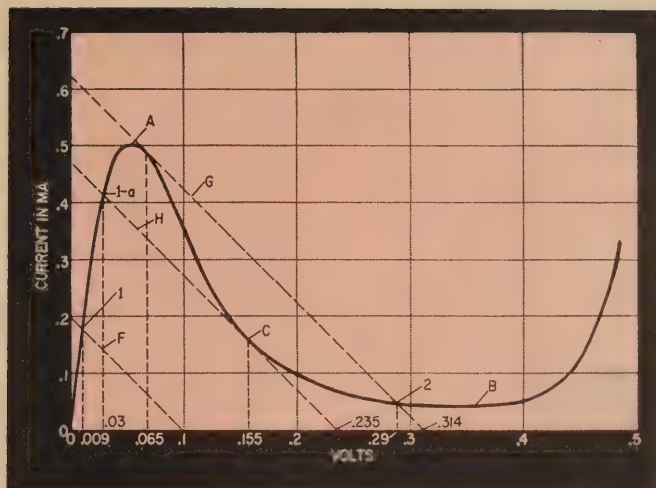
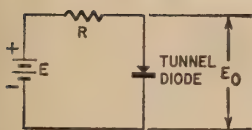
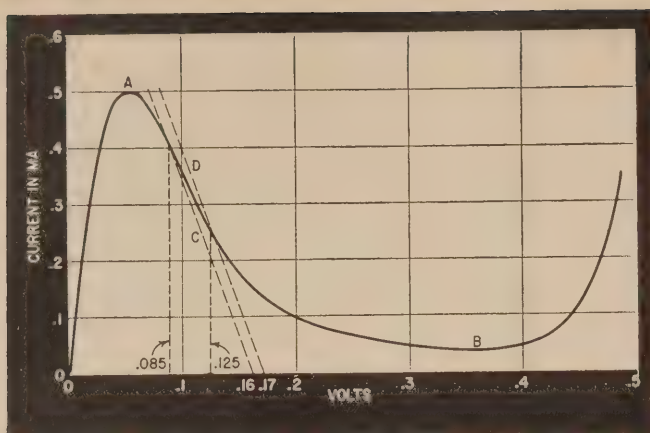

Fig. 2—Tunnel-diode characteristic with load lines for 500-ohm resistor in circuit of Fig. 3.
Fig. 3—Basic tunnel-diode circuit.
Fig. 5—Characteristic and load lines illustrating amplifying property.
it will be useful to first explore some of its electrical properties. It will be convenient, therefore, to refer to the simple series circuit arrangement of Fig. 3. Then, in conjunction with Fig. 2, we will analyze the operation of the tunnel diode.
A current-voltage characteristic of a typical tunnel diode is shown in Fig. 2. The current through it is shown with respect to the voltage E_0 across its terminals. Since the circuit of Fig. 3 is a simple series arrangement, the voltage E_0 at any time is equal to the battery voltage E minus the voltage drop in the resistance R . It would be very useful, therefore, also to know the current flowing in resistance R with respect to the voltage drop in it. Load line F in Fig. 2 shows just this relation and a very useful tool is available from it. The intersection of line F with the voltage axis shows the battery supply voltage E while its intersection with the diode characteristic curve shows the voltage E_0 .
Load line F may be used to represent the resistance R in the circuit of Fig. 3. While the slope of this line is negative and it appears at first that there is a decrease in current with increase in voltage, it must be remembered that the load line F does not show the current flowing in the resistance with respect to the voltage supplied, as is the case for the diode characteristic. Rather, it shows the current flowing with respect to the voltage drop in the resistance. For this reason, this negative slope is not to be confused with the negative-resistance region (A-B) of the diode characteristic.
For the condition shown, $E = 0.1$ volt, $E_0 = .009$ volt and the current is 0.18 ma. Therefore, with the above values, the point of operation of the diode (for the circuit of Fig. 3), will be as shown at 1 in Fig. 2. Although the slope of this load line is fixed by the resistance R in the circuit of Fig. 3, a change in the battery supply voltage will change its location with respect to the current-voltage characteristic.
Load line J in Fig. 4 (using the circuit of Fig. 3) represents a value of resistance much higher than the negative resistance of the diode. Notice that this load line intersects the characteristic in both positive resistance regions. Thus there are *two* stable operating points for a single battery voltage E. The voltage across the diode can be either that corresponding to point 1 or that corresponding to point 2.
Such a load line is shown as C in Fig. 5. It always has only one intersection with the diode characteristic, making it possible to have an average bias in the negative-resistance region. The slope of region A-B for a typical germanium tunnel diode having a peak current at point A of about 1 ma is about -100 . Hence its negative resistance will be 100 ohms.
Now how can the tunnel diode amplify? Refer to Fig. 3 again and assume that the diode is biased somewhere between the points A and B and has a load line such as shown at C on the characteristic of Fig. 5 so that it looks like a negative resistance. This negative resistance is indicated as $(-R_0)$. Then:
From equation (1) we see that the gain is 1 when $R = 0$ and increases to a very large value as R approaches $(-R_0)$. This is shown graphically in Fig. 5. Lines C and D correspond to a resistance R of 150 ohms and battery voltages of 0.16 and 0.17 volts, or a change of .01 volt. At the same time we see that the voltage across the tunnel diode is .085 and 0.125 volt, respectively, or a change of .04 volt.